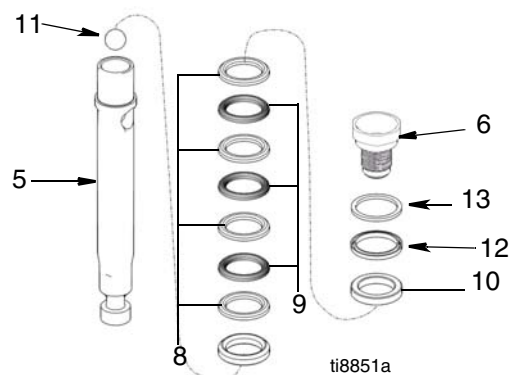

FIG. 7
7. (Fig. 7) Remove packing and glands from piston rod. Note orientation for installation.